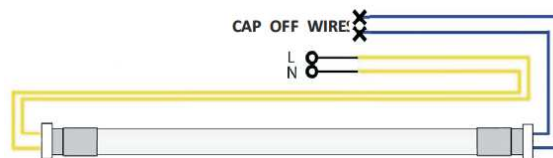

Figure 4
STEP 5: Connect Live/Hot (L) from the power source into one-end of the lampholder and connect the Neutral (N) from the power source into the other end of the lampholder as shown in Figure 4.